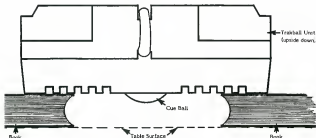

Figure 7-5. Cue Ball Support
- Turn the unit upside down and support it so that cue ball doesn't rub against the work bench (See Figure 7-5).